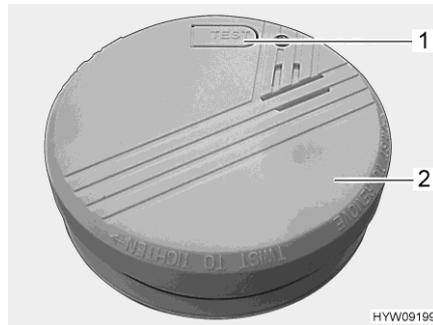

Fig. 235 Smoke alarm
- Turn the smoke alarm (Fig. 235,2) anticlockwise until it can be released from the holder.
- Test the smoke alarm. To do this, press the test button (Fig. 235,1). The alarm must sound.